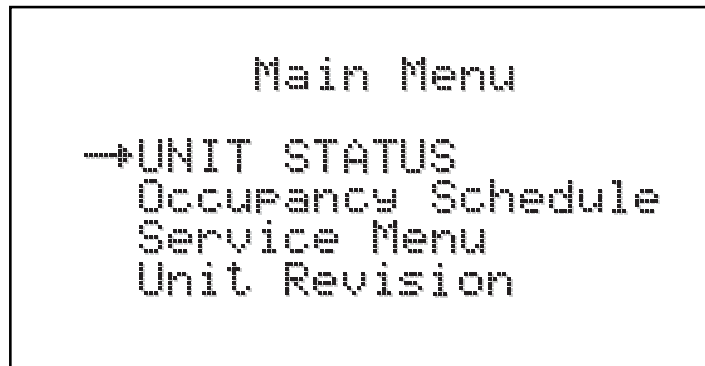
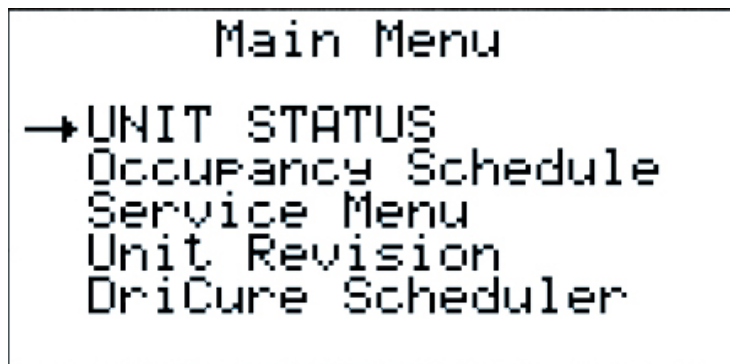

Figure 9
Figure 10
4.3 Main Menu (Figure 9)
Pressing the **Esc** key from the Home Screen displays the MAIN MENU (Figure 9). This menu allows the operator to view the Unit Status screens, set the Occupancy Schedule, enter the Service Menu, and view the Unit Revision.
If the unit is a DriCure the MAIN MENU will look like Figure 10. The same options are available as Figure 9, with the addition of the DriCure Scheduler at the bottom.